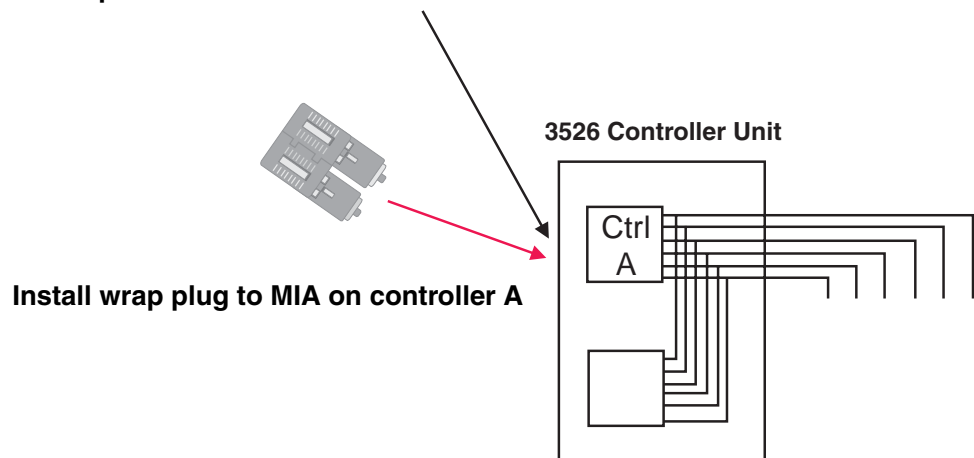

Figure 17. Install wrap plug to MIA on controller A
- a. For a Type 3526 RAID controller, install a wrap plug to the MIA on controller A. See Figure 17.